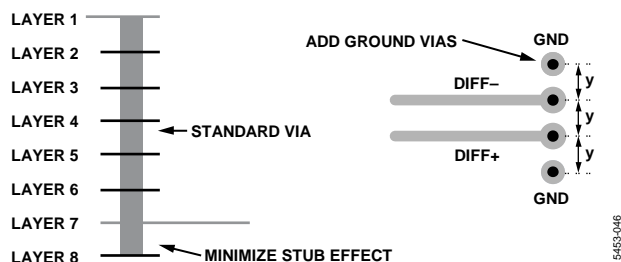

Figure 79. Minimizing Stub Effect and Adding Ground Vias for Differential Stripline Traces
- If using standard vias, use the maximum via length to minimize the stub size. For example, on an 8-layer board, use Layer 7 for the stripline pair (see Figure 79).
- For each via pair, place a pair of ground vias adjacent to them to minimize the impedance discontinuity (see Figure 79).